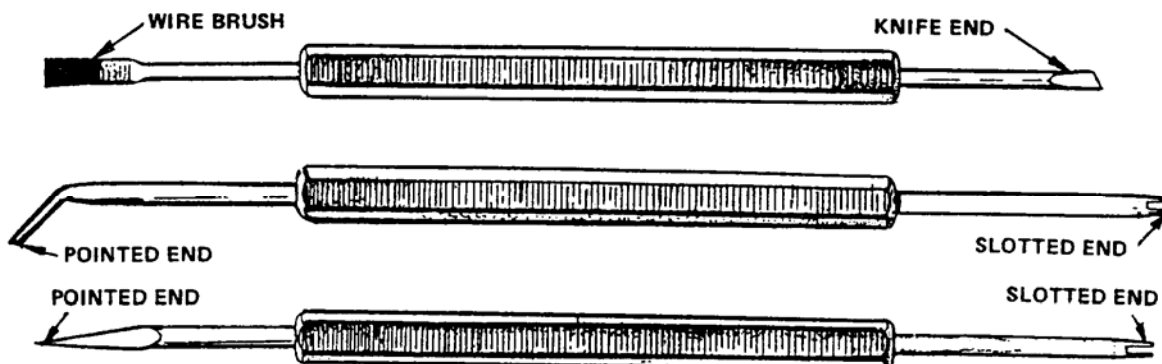

Figure A-11. Common Soldering Aids
(10) Soldering aids are used for desoldering components. The slotted ends are for moving and lifting component leads and the pointed ends are used to remove solder from the terminal holes and slots. Figure A-11 shows the most common types of soldering aids.